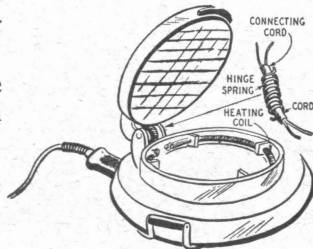

Fig. 29
**Remedy:** Disassemble and repair in the same manner as any other cord Fig. 29.
3. **Cause:** Heating coil burned out Fig. 29.